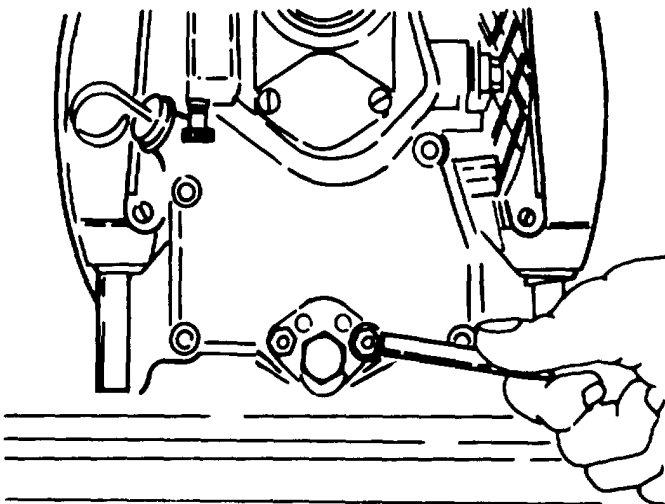

Figure A-52. Oil Screen Assembly
k. Oil Screen Assembly. Reinstall the oil screen assembly using an adjustable mm wrench. Install the oil drain plug using new copper washer. (Figure A-52.)